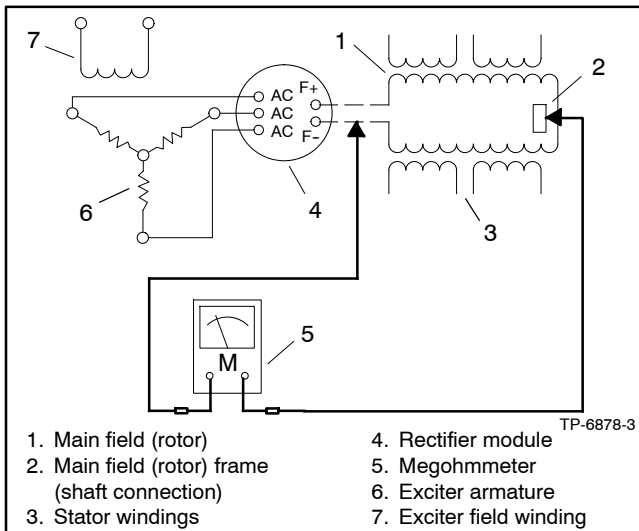

Figure 3-9 Megohmmeter Connections on Main Field
3. Check the main field (rotor) for a short-to-ground condition by using a megohmmeter. Apply 500 volts DC to either field lead (rotor) and the main field (rotor) frame. Follow the megohmmeter manufacturer's instructions for using the megohmmeter. See Figure 3-9.